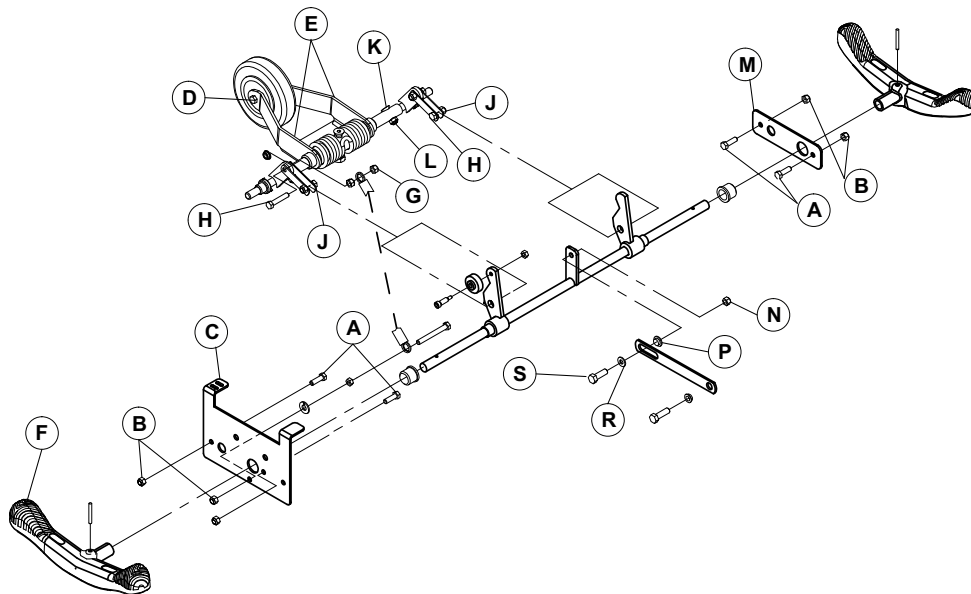

Figure 8 – Fifth wheel arm assembly replacement, hydraulic base
6. Using two 1/2" combination wrenches, remove the locknut (N), nylon shoulder spacer (P), washer (R), and bolt (S) that secure the connecting rod to the brake pedal shaft (Figure 8). Save the locknut, spacer, washer, and bolt.
7. Using a 1/2" combination wrench and 1/2" socket, remove the four locknuts (B) and four bolts (A) that secure the fifth wheel assembly to the support plates (C, M) (Figure 8). Lower the assembly to the ground and remove the assembly from underneath the base frame. Save the locknuts and bolts.
8. Using two 1/2" combination wrenches, remove the locknut and bolt (D) that secure the caster to the wheel arms (E) (Figure 8). Remove and save the caster. Save the locknut and bolt.
9. Move the left support plate toward the brake/steer pedal (F) to disengage the swing arm and torsion lever assembly from the support plates (Figure 8).
10. Using a 1/2" combination wrench, remove the locknut (G) that secures the spring hook to the bolt (Figure 8). Save the locknut.
11. Using two 1/2" combination wrenches, remove the two locknuts (J), four shoulder spacers, and two bolts (H) that secure the top part of the counter lever to both fifth wheel torsion levers (Figure 8). Save the locknuts, spacers, and bolts.
12. Using a 1/2" combination wrench and a 3/16" Allen wrench, remove the two locknuts (L) and two bolts (K) that secure the torsion levers to both ends of the fifth wheel shaft (Figure 8). Save the locknuts and bolts.